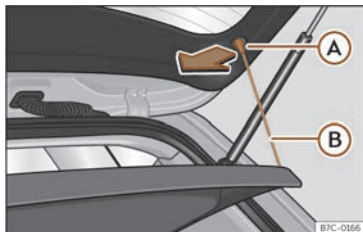

Fig. 168 In the luggage compartment: removing and installing the shelf.
- Detach the cord loops >>> **Fig. 168 (A)** from their hooks **(A)**.
- Attach the securing straps >>> **Fig. 168 (B)** onto the rear lid.